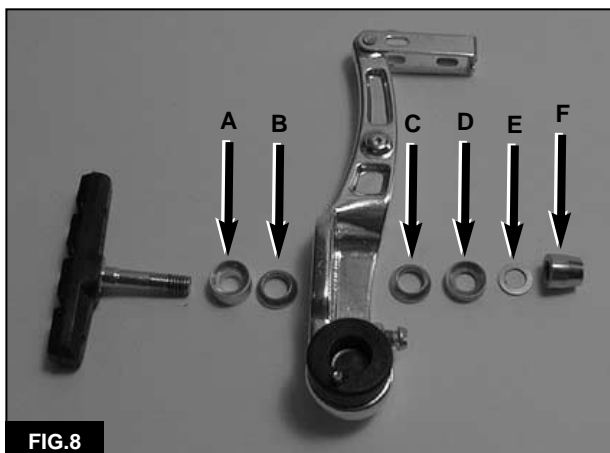

FIG.8
The brake pads in the E-Bike™ use a threaded-stud/curved-washer system (**Figure 8**). Convex and concave washers on each side of the brake caliper arm control how the pad is positioned against the wheel.
2. Remove the brake pad nut from the pad stud (F, **Figure 8**).
3. Remove the plain washer (E, **Figure 8**), the concave washer (D, **Figure 8**), and the convex washer (C, **Figure 8**) from the pad stud.
5. Remove the convex (B, **Figure 8**) and concave washers (A, **Figure 8**) from the brake pad. Discard the old pad. Do not mix the inboard and the outboard parts.
2. Install the inboard concave washer (A, **Figure 8**) onto the stud of the new brake pad. The flat side of the washer must face the brake pad.
3. Install the inboard convex washer (B, **Figure 8**) onto the pad stud so the convex side faces the concave washer.
5. Slide the convex washer (C, **Figure 8**) onto the pad stud so the convex side faces out.
6. Install the concave washer (D, **Figure 8**) so the flat side of the washer faces out.
7. Install the plain washer (E, **Figure 8**).
8. Apply Loctite to the threads of the pad stud, and install the brake pad nut (F, **Figure 8**). Tighten the nut to the torque specification in Table 4.